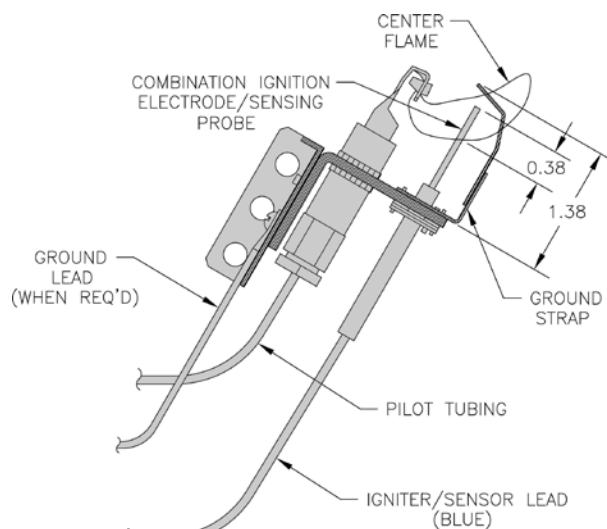

Figure 27: Pilot Burner Flame
- J. Check pilot burner flame.** See Figure 27. Flame should be steady, medium hard blue enveloping 3/8 to 1/2 inch of sensing probe.